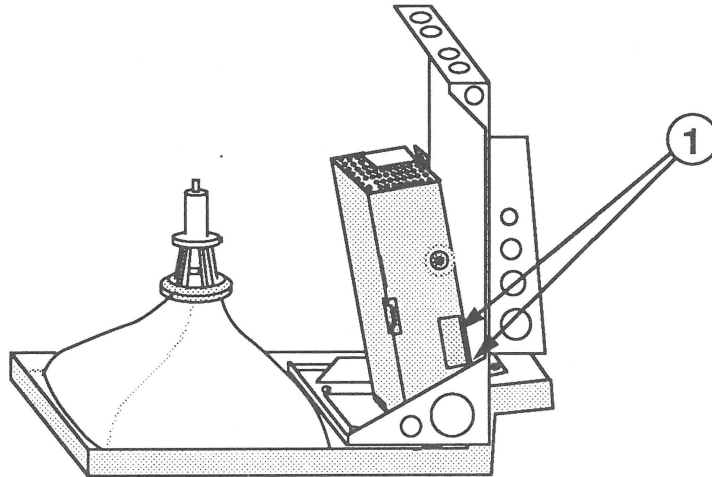

FIGURE 36
2. Place the drive into the chassis so that the tabs on the bottom of the metal drive housing fit into the holes provided in the chassis frame (Figure 36, #1).